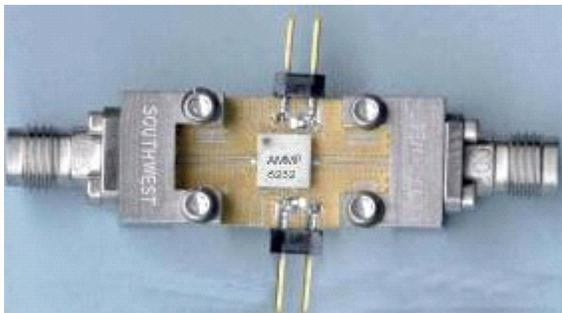

Figure 21. Evaluation/Test Board (available to qualified customer request)
1. S-parameters are measured with R&D Eval Board as shown in Figure 21. Board and connector effects are included in the data.
2. Noise Figure is measured with R&D Eval board as shown in Figure 21, and with a 3-dB pad at input. Board and connector losses are already de-embedded from the data.
2. Noise Figure is measured with R&D Eval board as shown in Figure 21, and with a 3-dB pad at input. Board and connector losses are already de-embedded from the data